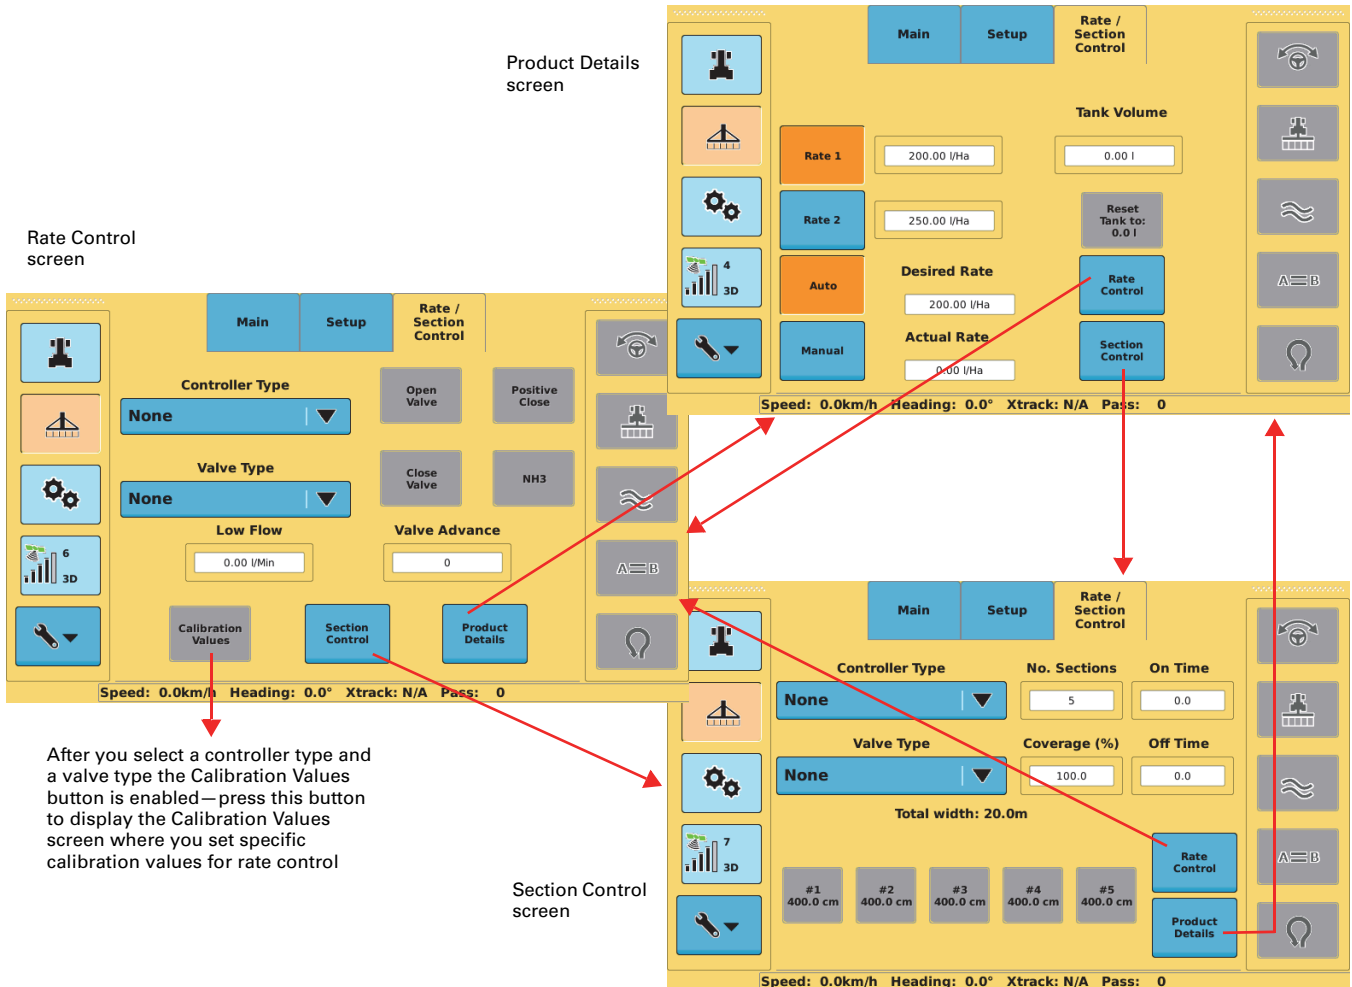

Figure 1: Navigating the rate and section control screens
1. Press the **Implement** screen button then press the **Rate / Section Control** tab at the top of the screen. The Rate/Section Control Product Details screen appears (see Figure 1 on page 9).